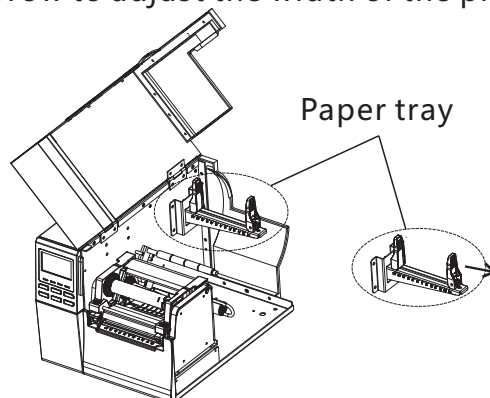

Figure8
- 2.7.2 As shown in Figure 8, move the paper support lock switch in the direction of the arrow to adjust the width of the print media.